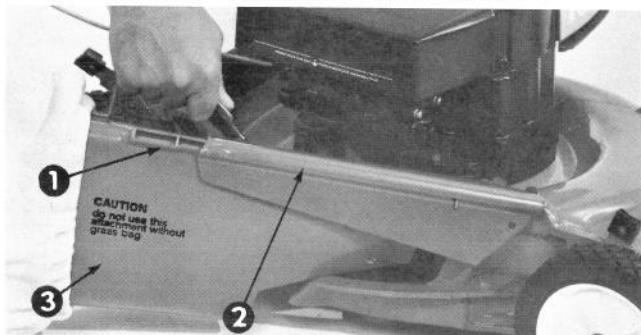

Figure 11
1. Grasp bag chute by the handle and insert chute slides into grooves in deflector. Raise deflector with the bag chute and slide the chute fully forward (Fig. 11). Allow spring tension of deflector to lower the bag chute so its tab settles into slot in mower housing. Do not use your free hand to raise grass deflector when installing the bag chute, even though engine is not running, because contact with the blade could cause personal injury.